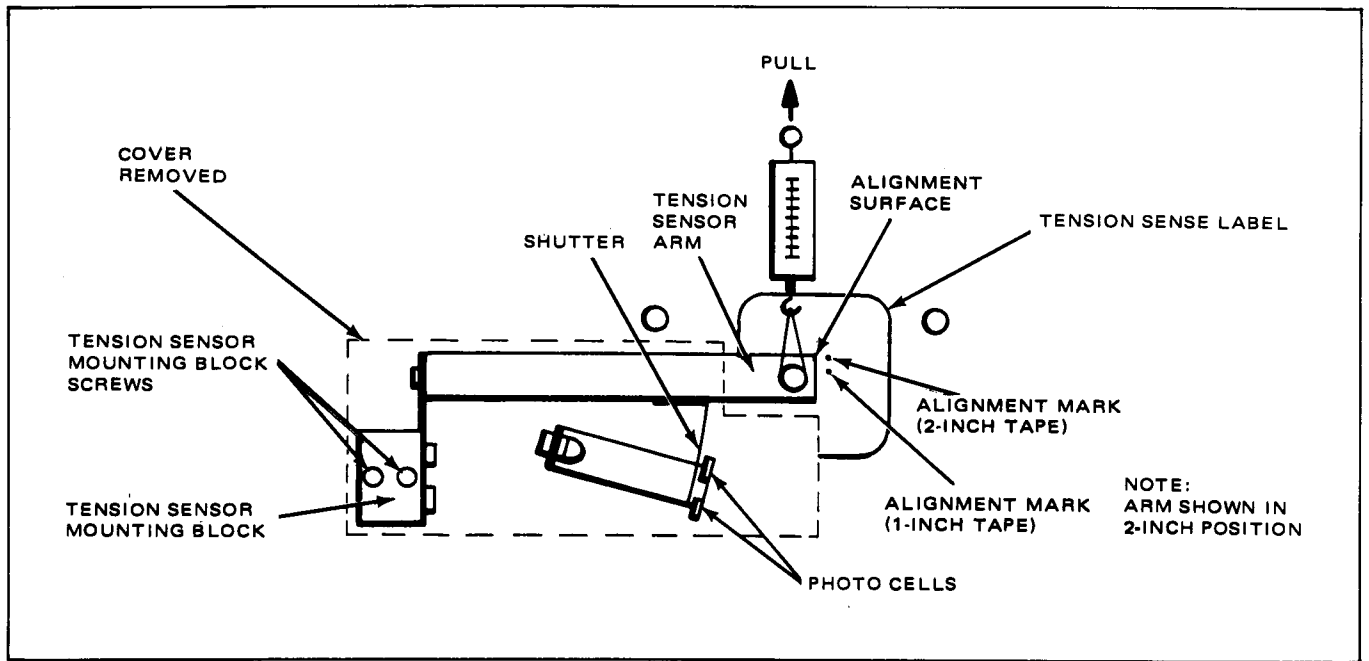

Figure 5-4. Tension Sensor Arm Calibration
2. Using a 30-ounce spring gauge, pull the tension sensor arm as shown in Figure 5-4. The alignment surface of the tension sensor arm must align with the alignment marks on the tension sense label when the spring gauge indicates 4 ounces (one-inch tape) or 8 ounces (two-inch tape).
1. Remove the screw holding the tension sensor cover, remove the cover, and loosen the two screws that retain the tension sensor mounting block (see Figure 5-4).
2. Reposition the mounting block such that the shutter opening is centered between the two photo cells with a tension of 8 ounces applied as shown in Figure 5-4.